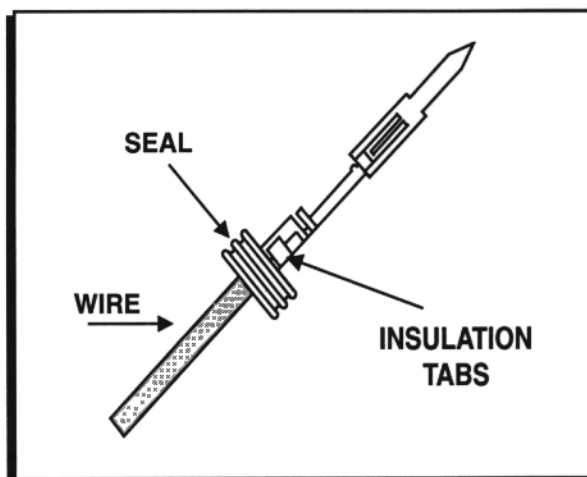

Figure 2 Weathertight Seal and Insulation Tabs.
- Install the Weathertight seal on the wire before crimping the wire to the terminal. The Weathertight seal should be positioned with its slim sleeve facing the terminal. This smaller section is where the insulation tabs crimp to (Figure 2).